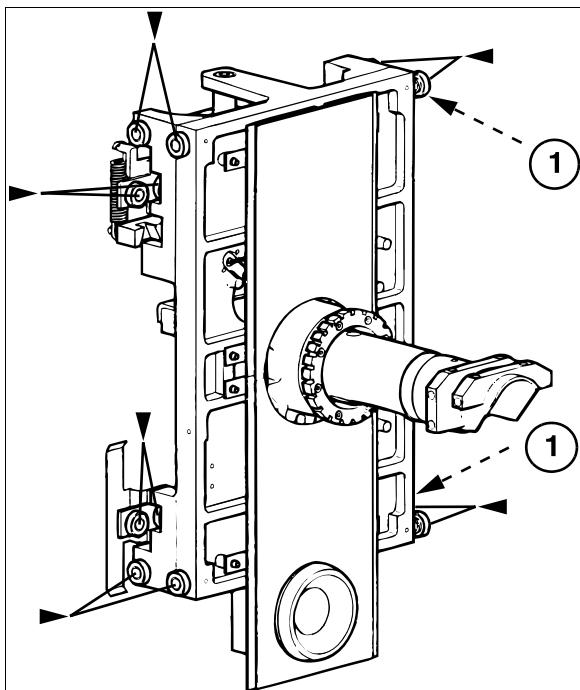

Fig. 2: Lifting carriage
- Depending on the serial no. of the MAMMOMAT, the lifting carriage is equipped with either ten or twelve ball bearings (refer to \(Fig. 2 / p. 18\)). The two ball bearings that are missing in MAMMOMATs with ten bearings are only indicated in the figure. Check that all ball bearings are in place and that they show no sign of damage.